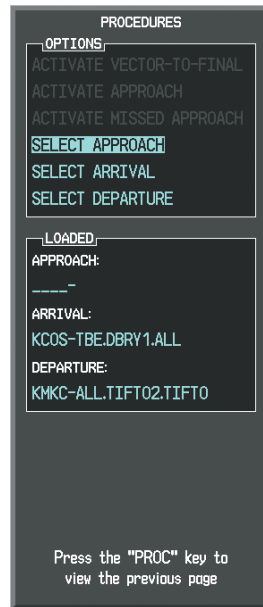

Figure 5-131 Procedures Window
- b) 'SELECT APPROACH' should be highlighted as shown in Figure 5-131.